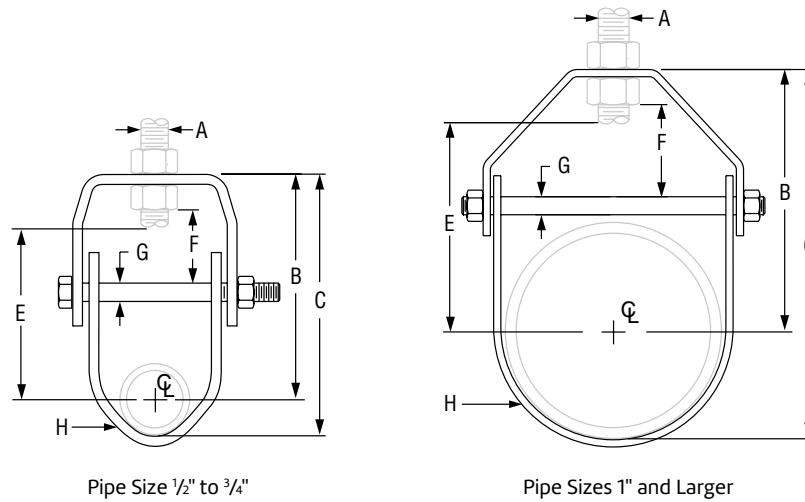

Fig. 260: Dimensions (in) • Loads (lbs) • Weight (lbs)
Adjustable Clevis Hanger Fig. 260 (Formerly Afcon Fig. 371)
- For insulated line options without shields, see Figures 260 ISS and Figure 300. For insulated line options with shields, see Figures 167 and 168. For ductile iron pipe sizes, see Figure 590.
Adjustable Clevis Hanger (cont.) Fig. 260 (Formerly Afcon Fig. 371)